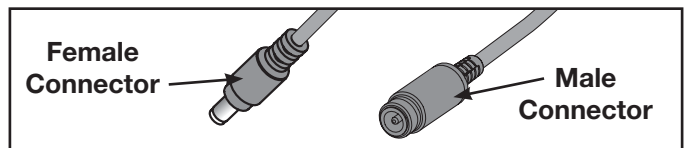

Figure 3
NOTE: The Power Cable of (F) has a male and female connector at either end. Make sure the female end goes to the Monitor (Q) and the male end is at the base. See Figure 3.